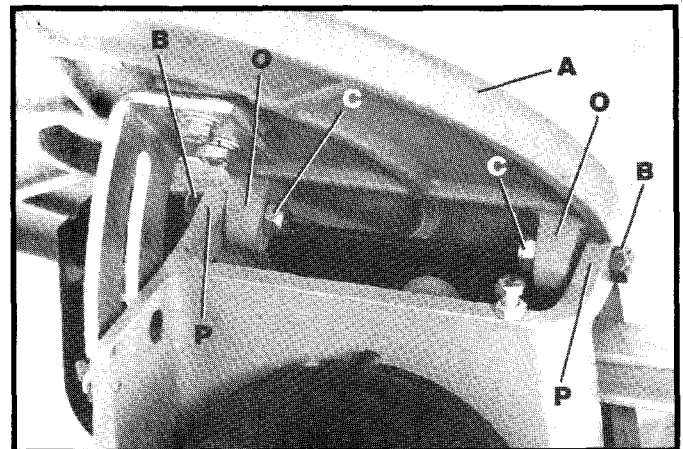
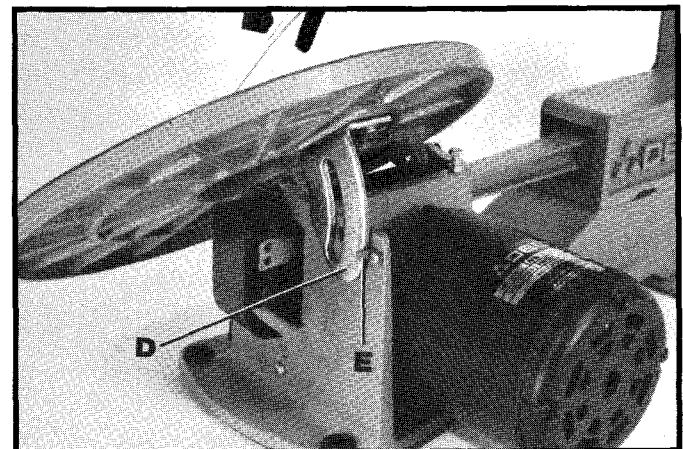

Fig. 3
Fig. 4
2. Position table (A) Fig. 3, on the machine as shown. Align the two holes in the table trunnions (O) with the two holes in the base (P) of the machine and fasten the table (A) to the base (P) using the two special screws (B) and locknuts (C) as shown. **NOTE:** Before tightening the special screws (B) and nuts (C) make sure the angle of tilt scale (D) Fig. 4, is positioned inside pointer (E) as shown. Also, do not completely tighten the special screws (B) and nuts (C) Fig. 3. Table must be able to tilt freely.